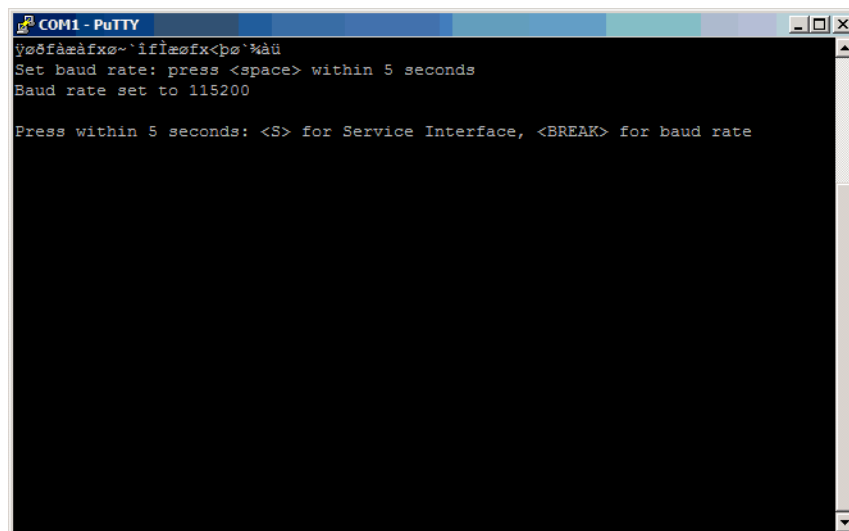

Figure 5-101 Serial login process
4. Press again CTRL+BREAK, you get message in Figure 5-101: